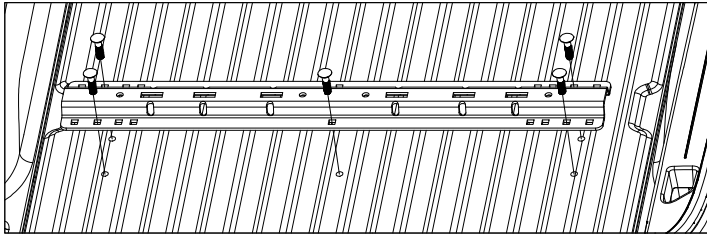
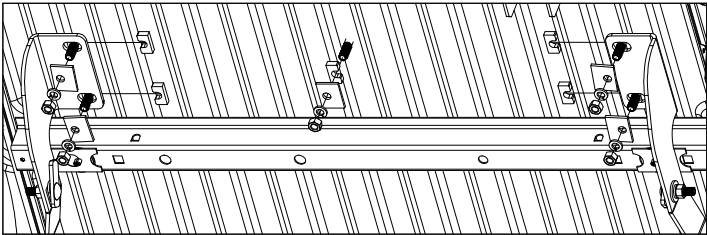

Figure E1: View looking into truck bed from rear of truck.
Figure E2: View under bed looking up toward cab. (Frame not shown)
- 1. Install the rear mounting rail.** Re-position the rear mounting rail over the drilled 9/16" holes in the bed. Install a 1/2" carriage bolt through the mounting rail into each of the five drilled holes, as shown in Figure E1. Under the bed install an offset square washer, 1/2" flat washers, 1/2" lock washers and 1/2" finish nuts on each of the carriage bolts, see Figure E2. Place the U-shaped spacers. Hand tighten each nut.